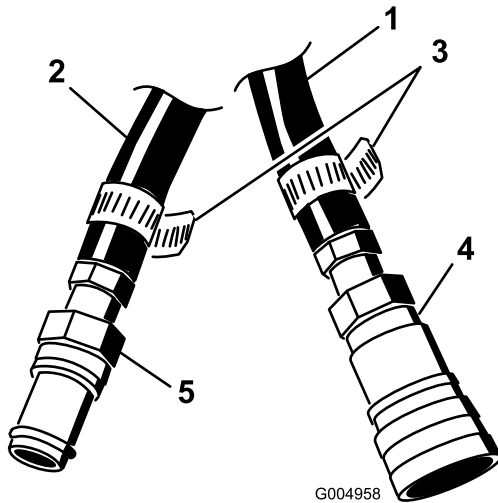

Figure 12
5. Insert the barb end of a nipple coupler into the pressure hose and secure with a hose clamp (Figure 12).
6. Insert the barb end of a quick disconnect coupler into the return hose and secure with a hose clamp (Figure 12).